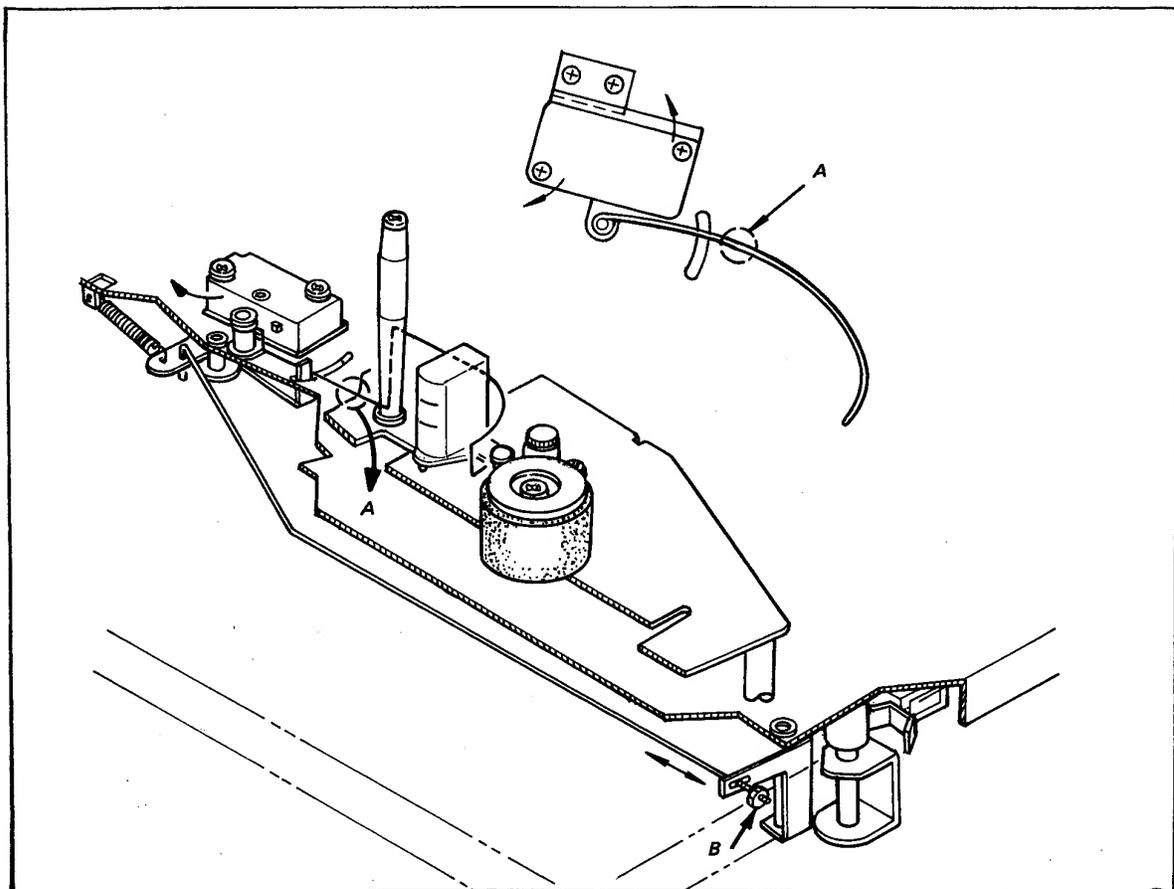

Fig. 4-20. Automatic shutoff switch adjustment
If not, bend the Section "A" of the sensing wire with a pair of pliers or turn the split nut at "B" shown in Fig. 4-20.
6. Loosen the two screws that secure the microswitch to the mounting bracket or the two screws that fasten the mounting bracket to the chassis. Slide the bracket or microswitch to obtain the correct condition. See Fig. 4-20.